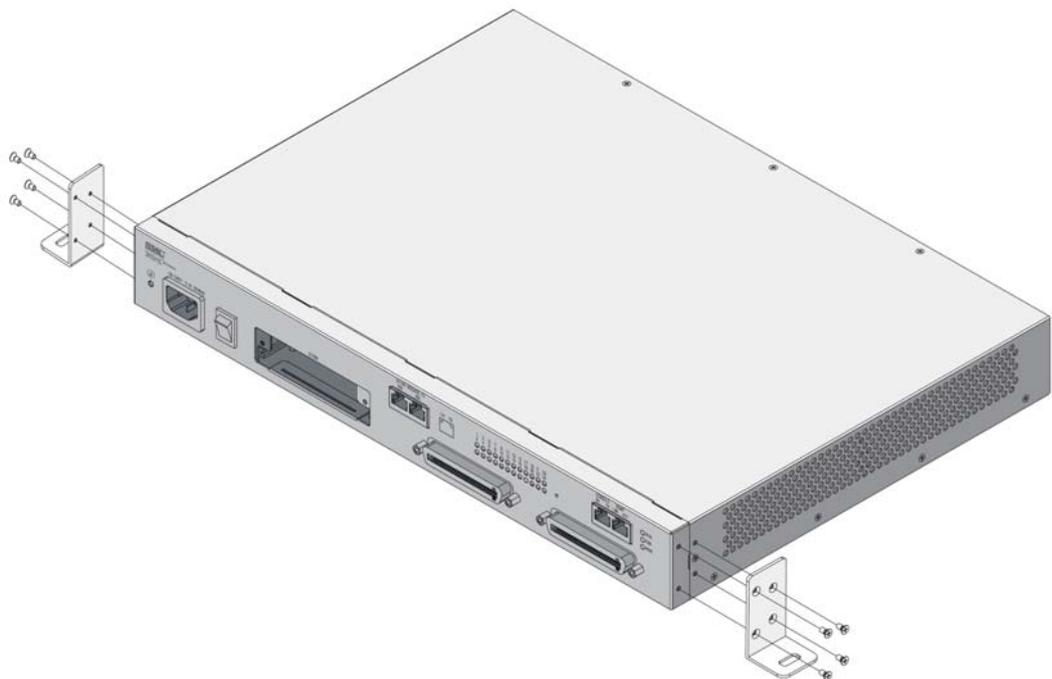

Fig. 3.6 Attaching the Wall Mounting Brackets
1. Attach the wall mounting brackets to the edge sides of the system as Fig 3.6.